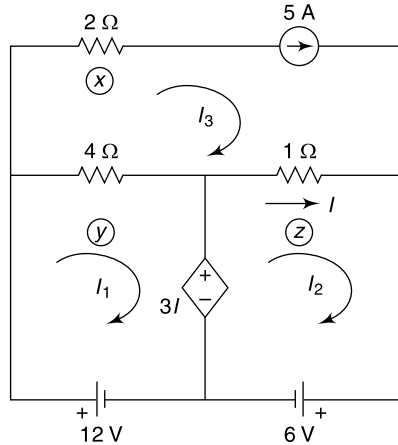

Fig. 4.162 Circuit of Ex. 4.131
4.131 Obtain the values of I_1 , I_2 and I_3 in the circuit shown in Fig. 4.162.